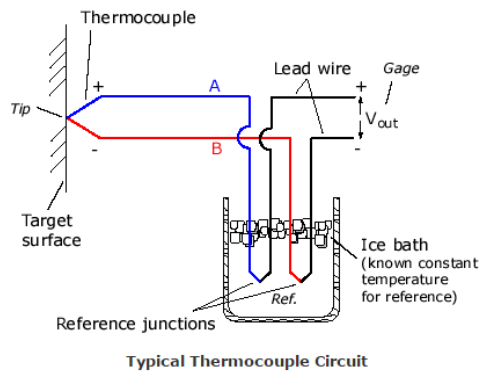

Figure 1: Thermocouple circuit using a cold-junction-reference.1
**First Objective:** Using thermocouple can be an inexpensive way to record temperature in an experiment (especially when uncertainty is not necessarily a priority). Thermocouples work based off the Seebeck effect where a small (measurable) voltage is generated with a temperature difference along the wires when dissimilar metals are in contact, as seen in Figure 1. Here, it is showing a cold-junction-reference temperature (ice bath) but the equipment used today has a cold-junction-reference built in.